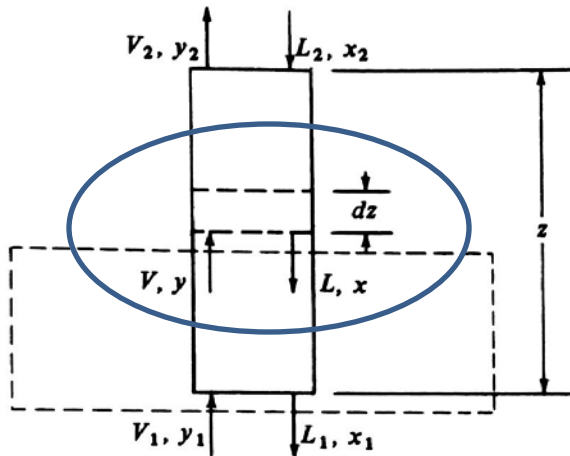

FIGURE 10.6-9. Material balance for a countercurrent packed absorption tower.
5. Design method for packed towers using mass-transfer coefficients. For absorption of A from stagnant B, the operating-line equation (10.6-5) holds. For the differential height of tower dz in Fig. 10.6-9, the moles of A leaving V equal the moles entering L :